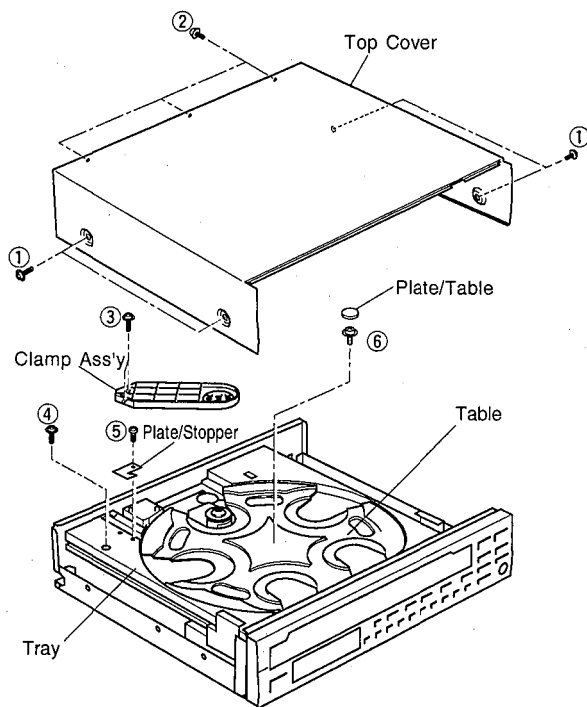

Fig. 1
- ① P.C.B. MAIN (2)
- ② CLAMP ASS'Y
- ③ CM-110 UNIT
- ④ P.C.B. MAIN (1)
- ⑤ TRAY ASS'Y
- Remove 4 screws (①) and also 3 screws (②) as shown in Fig. 1.
- Remove 2 screws (③) as shown in Fig. 1.
- Remove 1 screw (④) as shown in Fig. 1.
- Remove 1 screw (⑤) and then remove the Plate/Stopper as shown in Fig. 1.
- Remove the Plate/Table as shown in Fig. 1.
- Remove 1 screw (⑥) and then take off the Table as shown in Fig. 1.